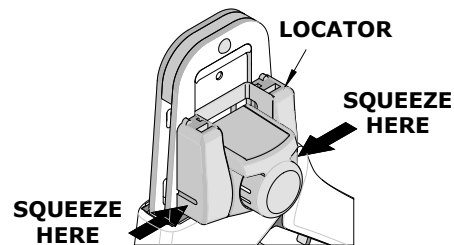

Figure 7A
2. Squeeze gently on the lower area shown in Figure 7A with your thumb and index finger. The lower tabs of the locator should disengage from the hand tool.
3. Lift and pull away from the hand tool. The top locator hooks should slip out of the top slots easily. See Figure 7A.